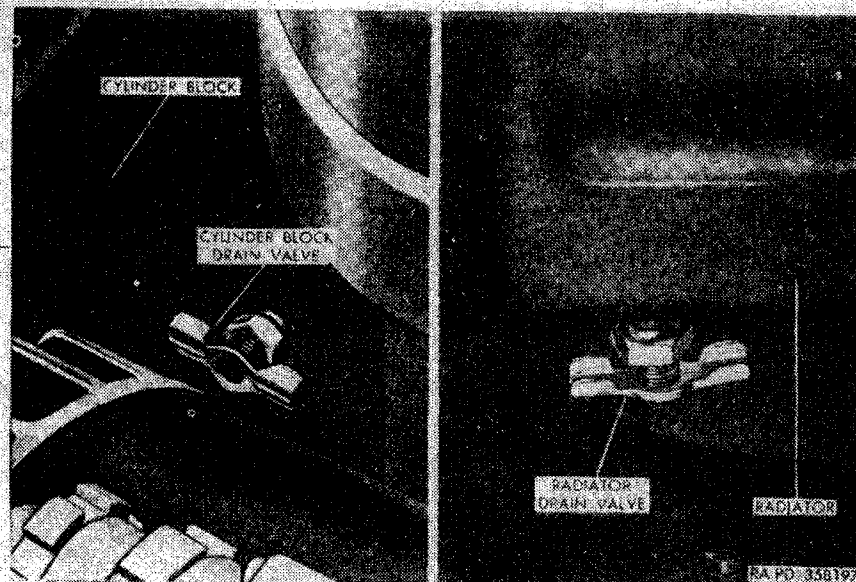

Figure 61. Cooling system drain cocks.
drain cocks (fig. 61). Open both drain cocks, allow system to drain completely, and close drain cocks.
- (2) *Filling.* Be sure both drain cocks (fig. 61) are closed. Fill the cooling system with water, or antifreeze solution of sufficient strength to protect the system against the lowest anticipated temperature, to a level one inch below the filler neck. Be sure rust inhibitor is added to prevent the formation of